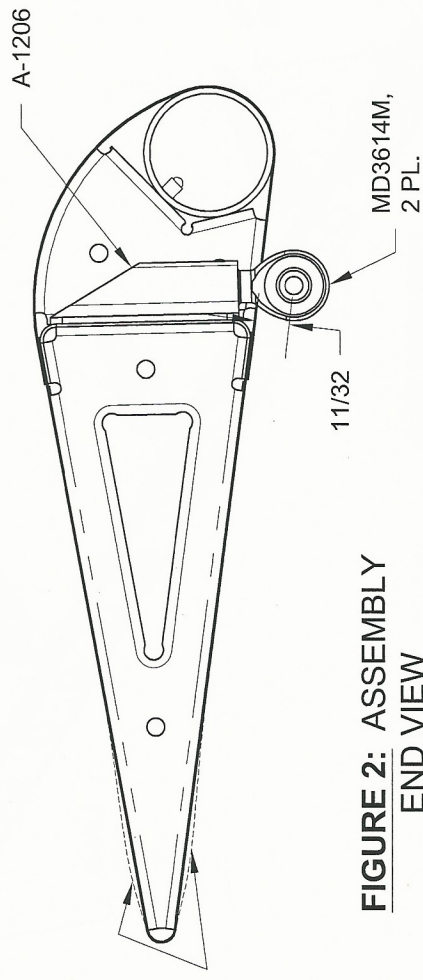

FIGURE 2: ASSEMBLY END VIEW (SOME PARTS NOT SHOWN FOR CLARITY)
Step 1: Cleco the A-1202B Outbd Flaperon Skin and A-1202A-L Inbd Flaperon Skin to the A-1205 Main Ribs and A-1203 Spar. Check that the inbd and outbd flaperon skins are bent properly as shown in Figure 2. If not, work the inbd and outbd flaperon skins by hand until they lie flat against the main ribs.
Step 6: Insert a rod end bearing into each A-1206 Pivot Bracket as shown in Figure 2.